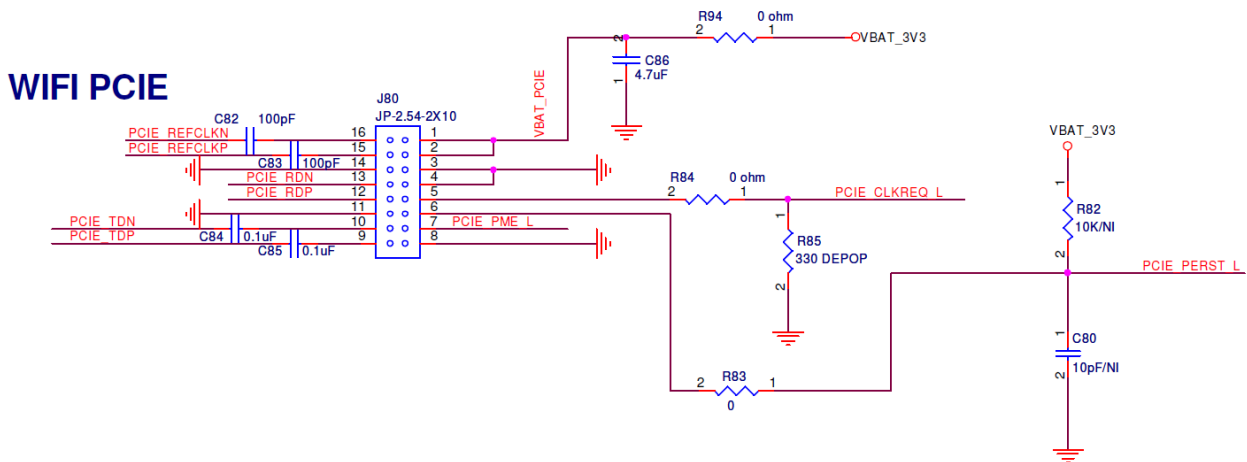

Figure3. WiFi verification connection interface to Host PCIe
- ❖ Refer to Figure3 PCIe pin definition connects the J80 interface of AP6356SDXX evaluation board to Host PCIe control interface.